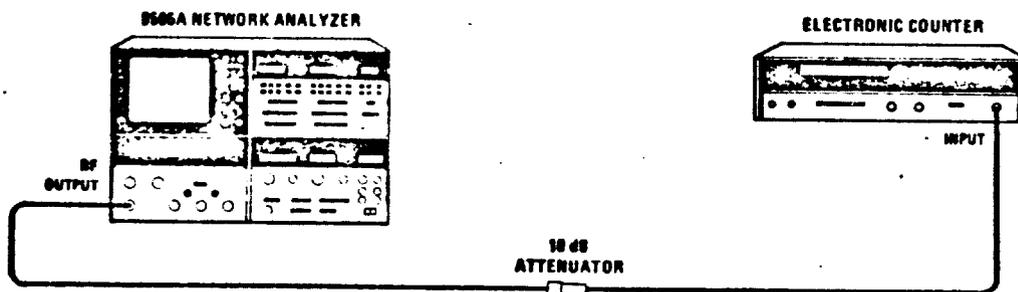

Figure A4-1. Frequency Accuracy Test Setup
b. Connect equipment as shown in Figure A4-1 and set external counter resolution to 100 Hz.